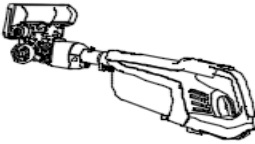

Fig.15
- Connect main body with nozzle directly for use. (Fig. 15)